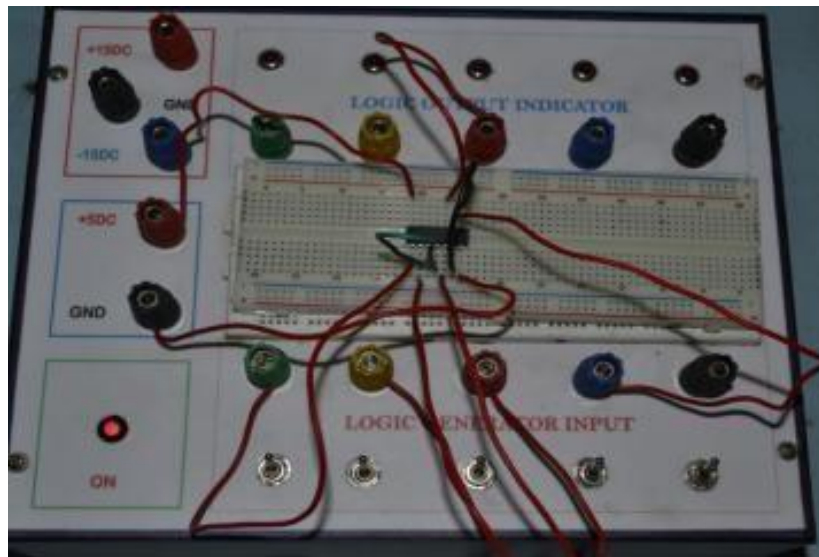

Figure 6.5: Practical set up for finding value of C_1
- i. Mount EX-OR IC on bread board as shown in figure 6.5.
- v. Generation of C_1 is shown in figure 6.5